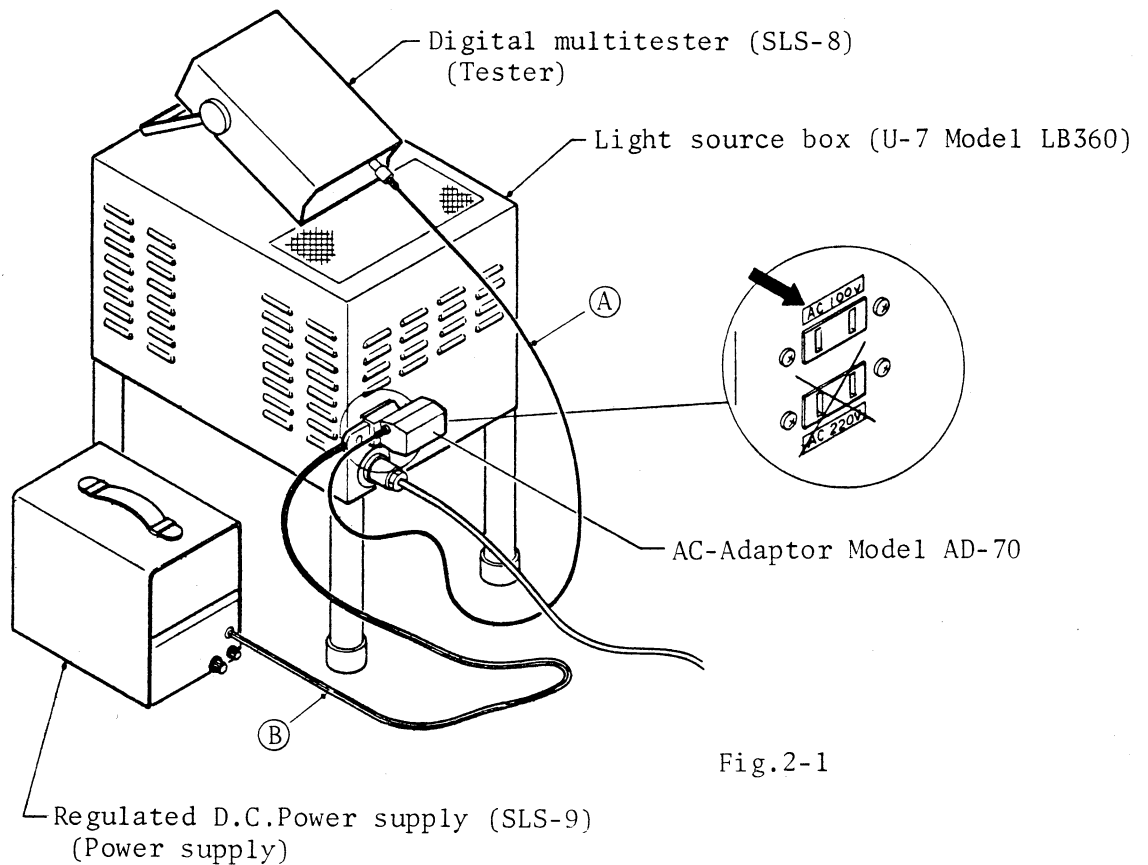

Fig.2-1
Connect the electric power cords ① and ② to the wall socket for AC 100V on back of the U-7 Light source box as shown in the Fig. 2-1.